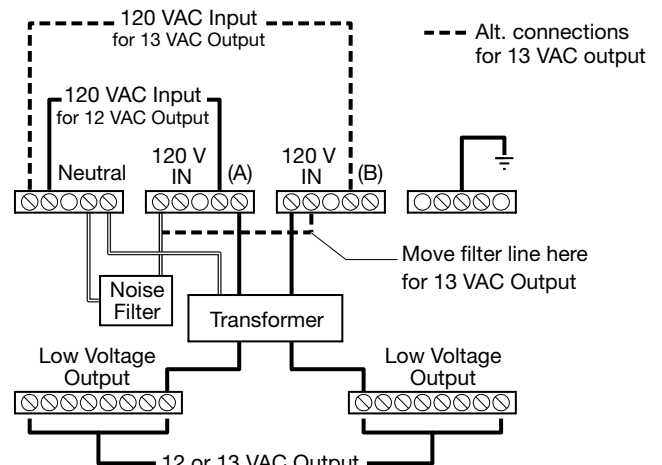

FIG. 8. Wiring Locations
6. Pull the power supply conductors from the source to the junction box transformer. See FIG. 8 for the power input locations.
7. Make the wiring connections. See FIG. 8.
- 120 V IN (A) for 12 V output, or
- 120 V IN (B) for 13 V output.
Note: The factory default connection for the noise filter circuit is from the "Neutral" terminal block to the "120 V IN (A)" terminal block for a 12 VAC output. If a 13 VAC output is needed, rewire the noise filter from the "120 V IN (A)" connection to the "120 V IN (B)" connection. See FIG. 8.